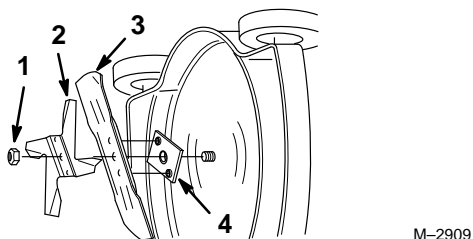

Figure 24
1. Remove the blade nut and mulching fan (Fig. 24).
2. Remove the blade from the blade driver (Fig. 24).
- Install the blade driver onto the crankshaft (if removed) (Fig. 24).
- Install the blade over the lugs of the blade driver with the curved ends toward the mower housing (Fig. 24).
- Install the mulch fan into the blade recess (Fig. 24).